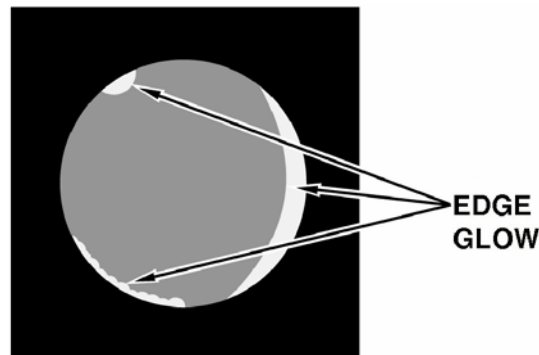

Figure 2-2. Edge Glow.
(2) Edge Glow. Edge glow is a bright area (sometimes sparkling) in the outer portion of the viewing area (Figure 2-2). Edge glow is sometimes caused by an emission point (or series of emission points) just outside the field of view or by a defective phosphor screen that permits light feedback to the photocathode. To check for edge glow, remove the binocular from the test ports (keeping the goggle connector attached) and block out all light by cupping a hand over the lens. If the image tube is displaying edge glow, the bright area will still show up. If edge glow is present, record this specific defect on the maintenance forms. The image intensifier assembly must be replaced by AVIM.